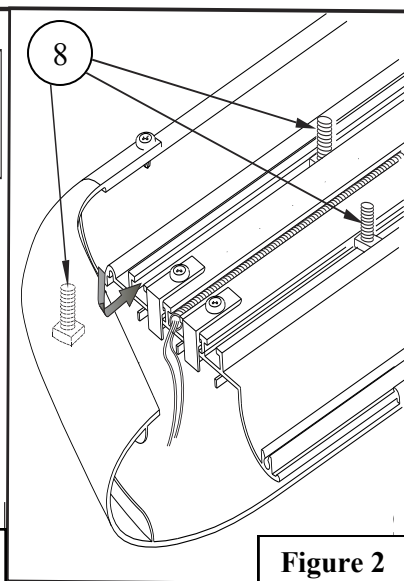
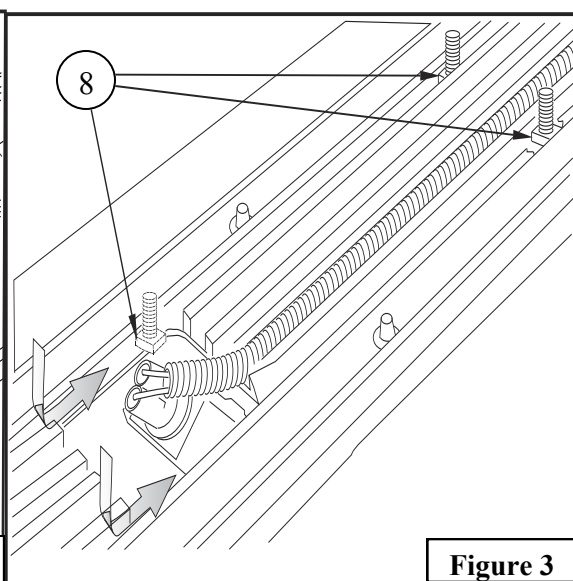
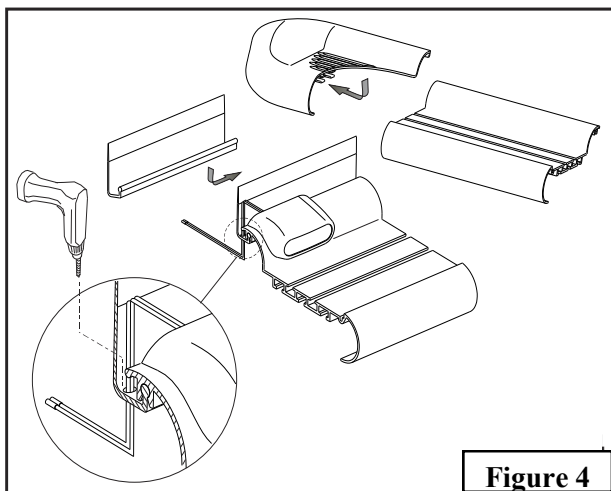
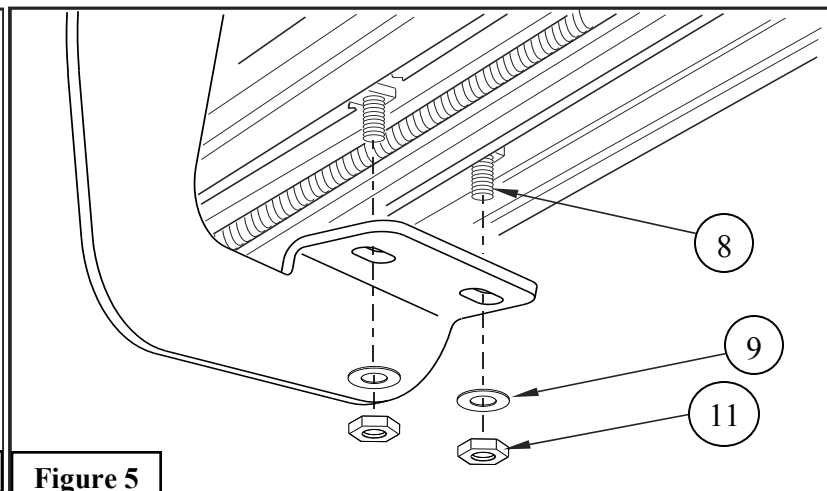

Figure 2
Figure 3
Figure 4
Figure 5
3. Insert square head bolts as shown (2 per slot, 4 per board). See **Figures 2 and 3**. **Note:** For lighted boards, route wiring harness prior to attaching the board to the brackets (refer to **Step 5**). See **Figures 2 and 3**. Run the longer wire harness on the passenger side.
4. For Sure-Grip Running Boards, slide Sure Grip Gap strip as shown. Set lights (optional) in appropriate location. Attach the lights to Sure-Grip Running Board as shown. See **Figure 2**. Drill hole through plastic strip and run wires as shown. See **Figure 4**.
5. Attach board to brackets as shown. Make sure board and brackets are properly aligned and tighten fasteners. Recommended torque values are 10 ft-lbs. for M8 square head fasteners and 18 ft-lbs. for M8 Hex head bolt. See **Figure 5**. **Note:** For lighted version of Step board, remove plastic cover from each end of under side of the Step board. Proceed to **Steps 6 & 7**. **WARNING: INSTALLING LIGHT HARNESS REQUIRES SPLICING INTO VEHICLES ELECTRICAL SYSTEM. WESTIN RECOMMENDS USING A PROFESSIONAL FOR THIS INSTALLATION. NOTE: AVOID AREAS OF EXCESSIVE HEAT, VIBRATION, PINCH OR ROTATION WHEN SECURING HARNESS TO VEHICLE. CAUTION: ALWAYS USE A FUSED(+) POSITIVE SUPPLY SOURCE. UNDERCOAT SEAL FOR HARSH WEATHER. Hint:** Step boards: For Longevity, check rubber seals before installation. Rubber grommets around red and blue wires going into rear sockets, should be inserted and recessed about 1/4". **Note:** Remove bulbs and apply white grease into sockets and replace bulbs. Apply RTV Silicone where lights go into socket. Install lights and run wire loom as shown. See **Figure 3**. For Sure-Grip Running Boards, run wire loom down center as shown. See **Figure 2**.